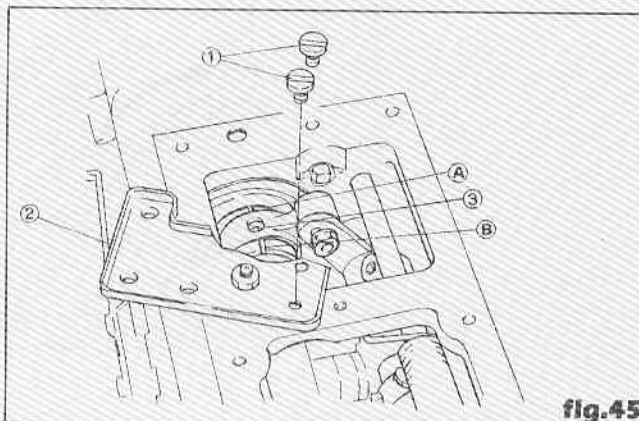

fig.45
1. Remove the screw (1) and move the oil guard (2) to one side;
2. Loosen the two screws (3) and adjust the mark A and B to be a straight line, then tighten the screw (7). (fig 45)